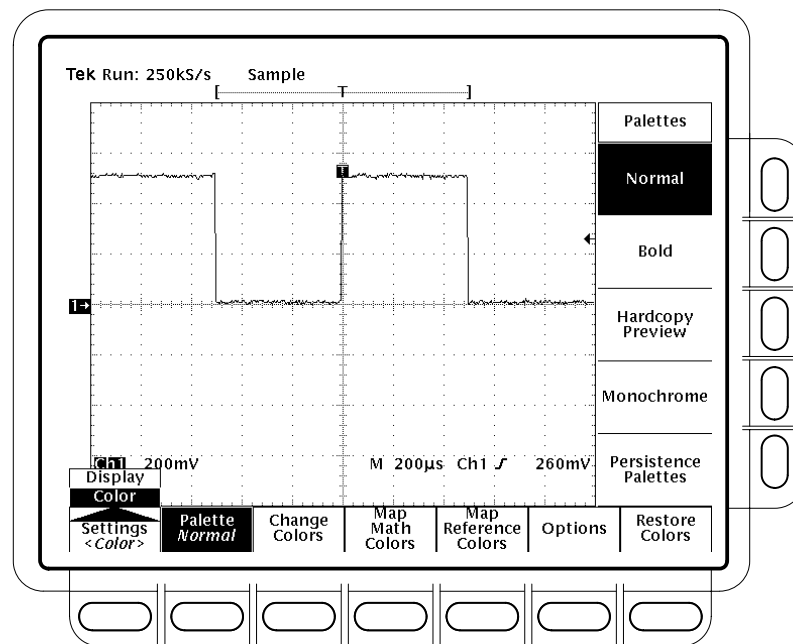

Figure 3–21: Display Menu — Setting
2. Press **Settings** in the main menu until you select **Color** from the pop-up menu. (See Figure 3–21.)